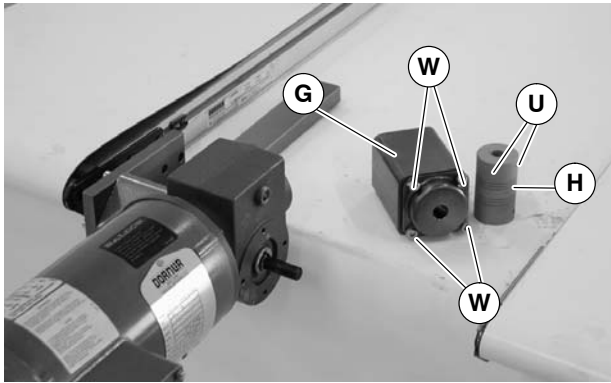

Figure 35
- Remove four (4) screws (W of Figure 35) and remove guard tube (G). Loosen set screws (U) and remove flex coupling (H).